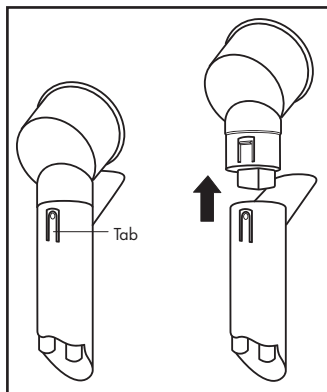

FIGURE 11
3. Remove and disassemble the Drip Spout Assembly: Pod Holder, Pod Chamber and Drip Spout. To separate the Pod Chamber and Drip Spout, press Tab on the back side of the Drip Spout to remove, see Figure 11.